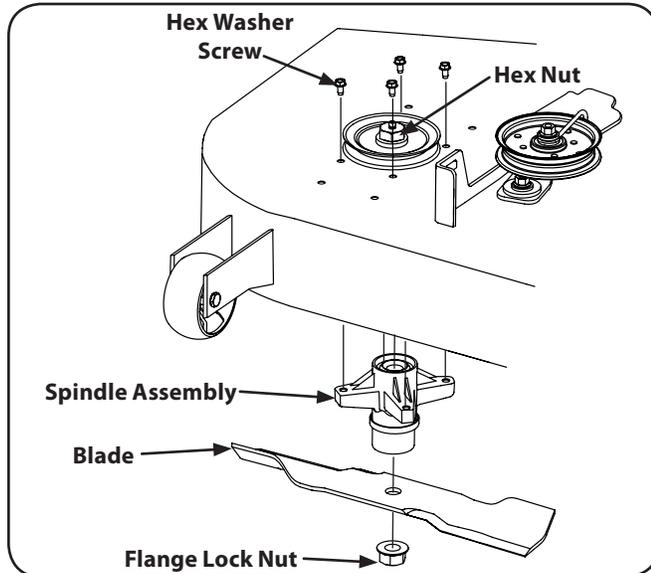

Figure 7-7
6. Using a wrench or socket ratchet remove four hex nuts, and the four hex head cap screws. Remove the spindle assembly. See Fig. 7-7.